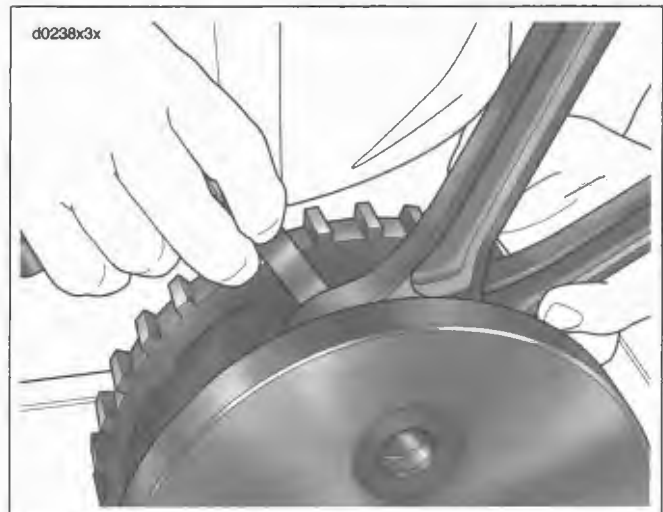

Figure 3-160. Connecting Rod Side Play
3. See Figure 3-160. Check connecting rod side play.